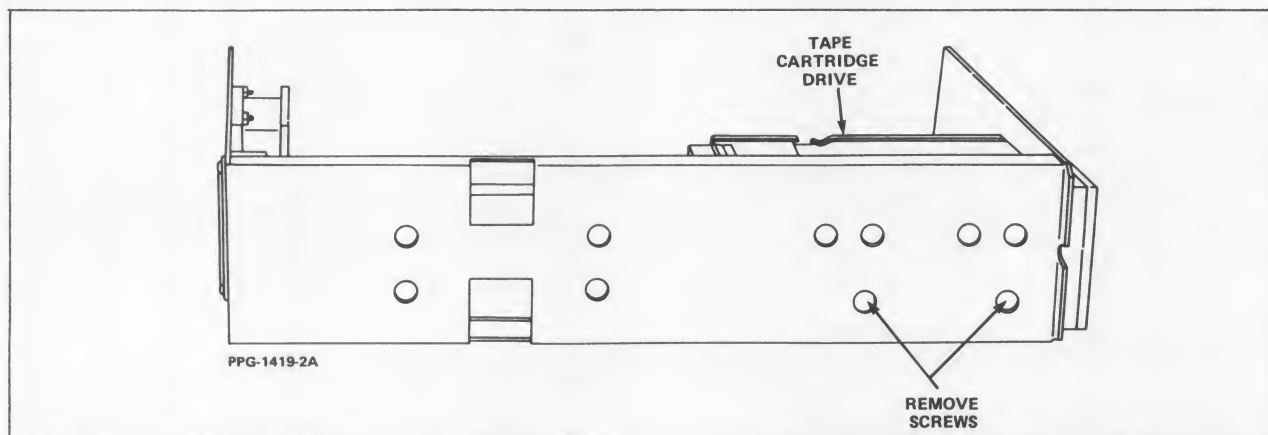

Figure 6-6. Tape Cartridge Drive Attached to Tape Cartridge Drive Enclosure
6. Remove and save the two screws attaching the tape cartridge drive to the left side frame of the enclosure (see figure 6-6). Use the 1/4-inch hexdriver to remove the screws. Gain access to these two screws from the left side panel of the enclosure.